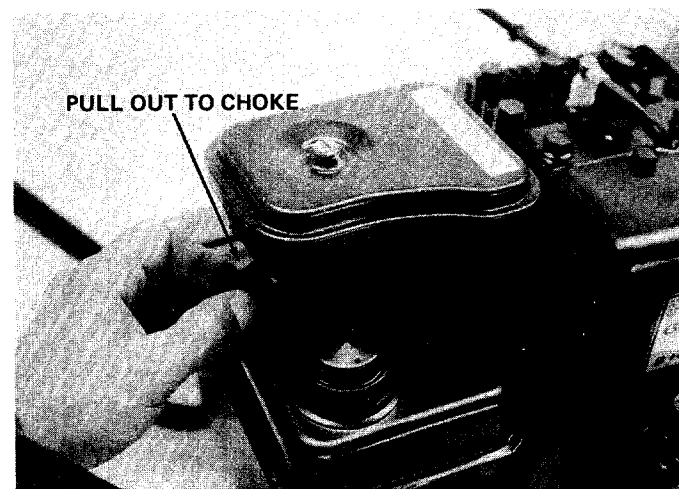

FIGURE 10.
3. Pull the choke control out to "choke" position if necessary. See figure 10.